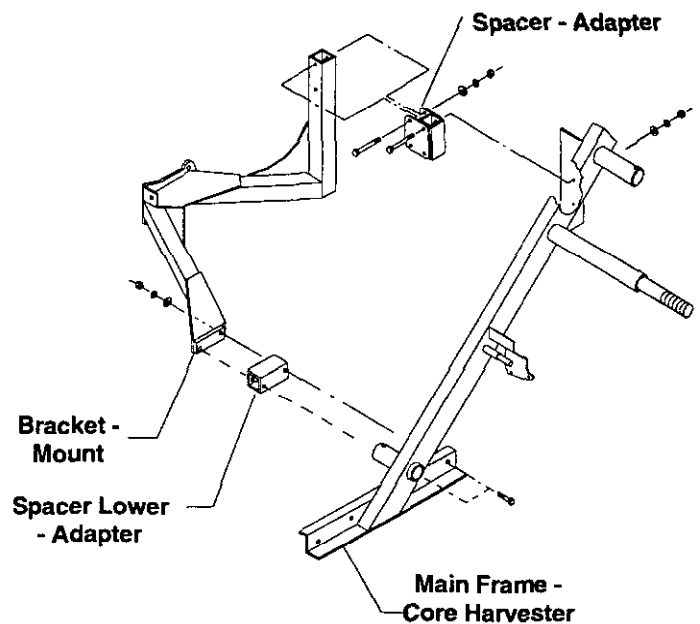

Figure 2
4. Attach Bracket Mount to the main frame of the Core Harvester using 3/8 x 3 1/2" bolts. For installation on older Core Harvesters, serial numbers 888670 and below, the Spacer Adapter and the Lower Spacer Adapter must be added. Secure to the Main Frame of the Core Harvester and to the Bracket Mount as shown in Fig. 2.